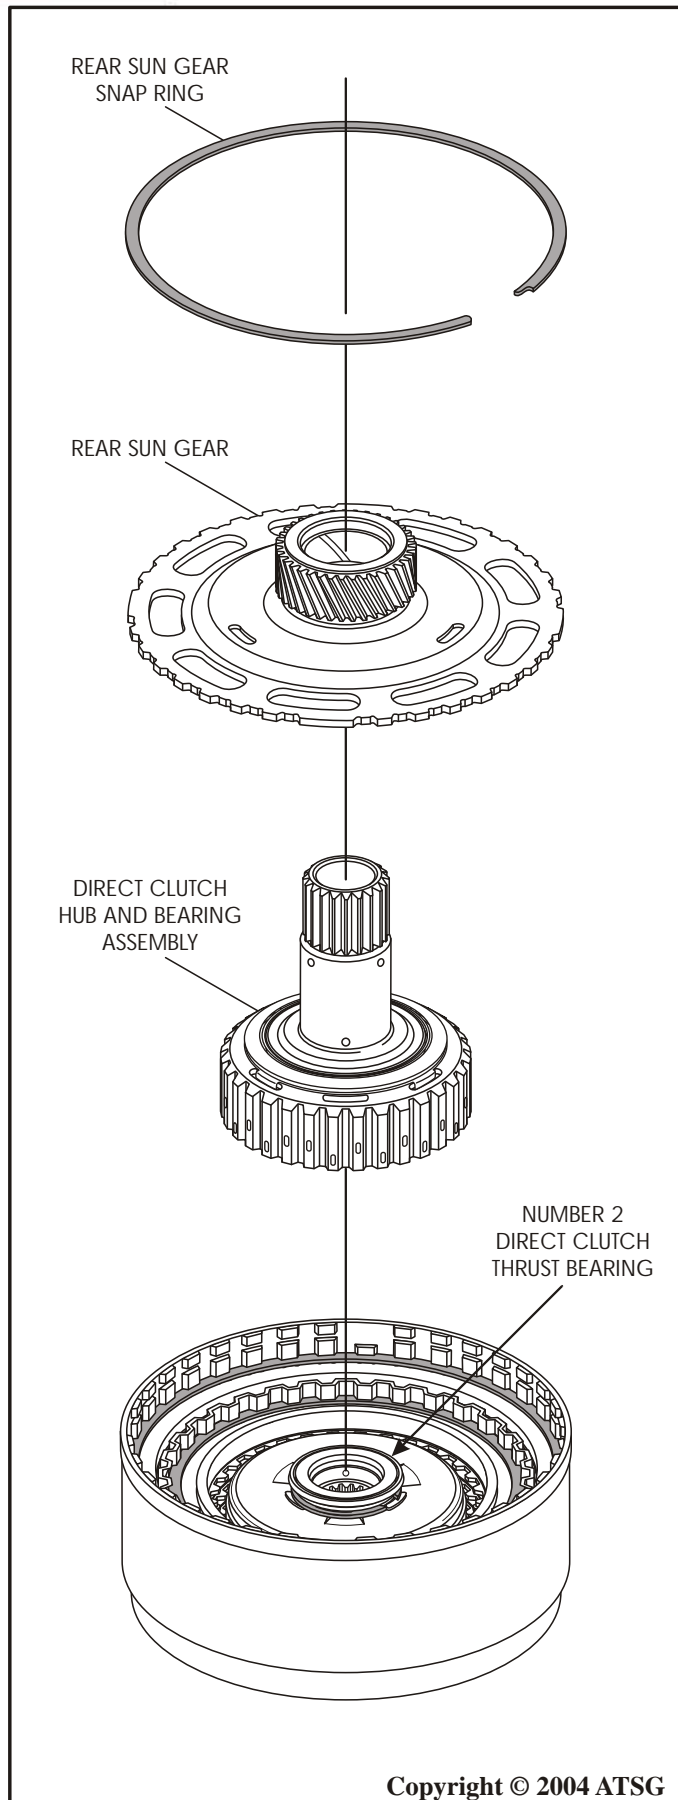

Figure 88
5. Install direct clutch hub and bearing assembly into direct clutches by rotating back and forth until fully seated (See Figure 88).
6. Install the rear sun gear into the reverse clutch housing, as shown in Figure 88.
7. Install the rear sun gear snap ring into reverse clutch housing, as shown in Figure 88, and ensure that it is fully seated.